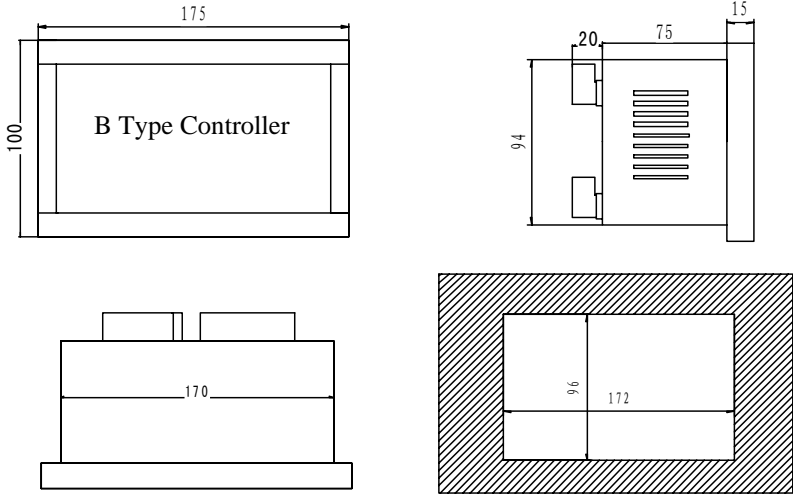

Fig. 1 Form of B type controller and Hole dimension
- For form and dimension of B type controller(Individual), please refer to the Fig.1